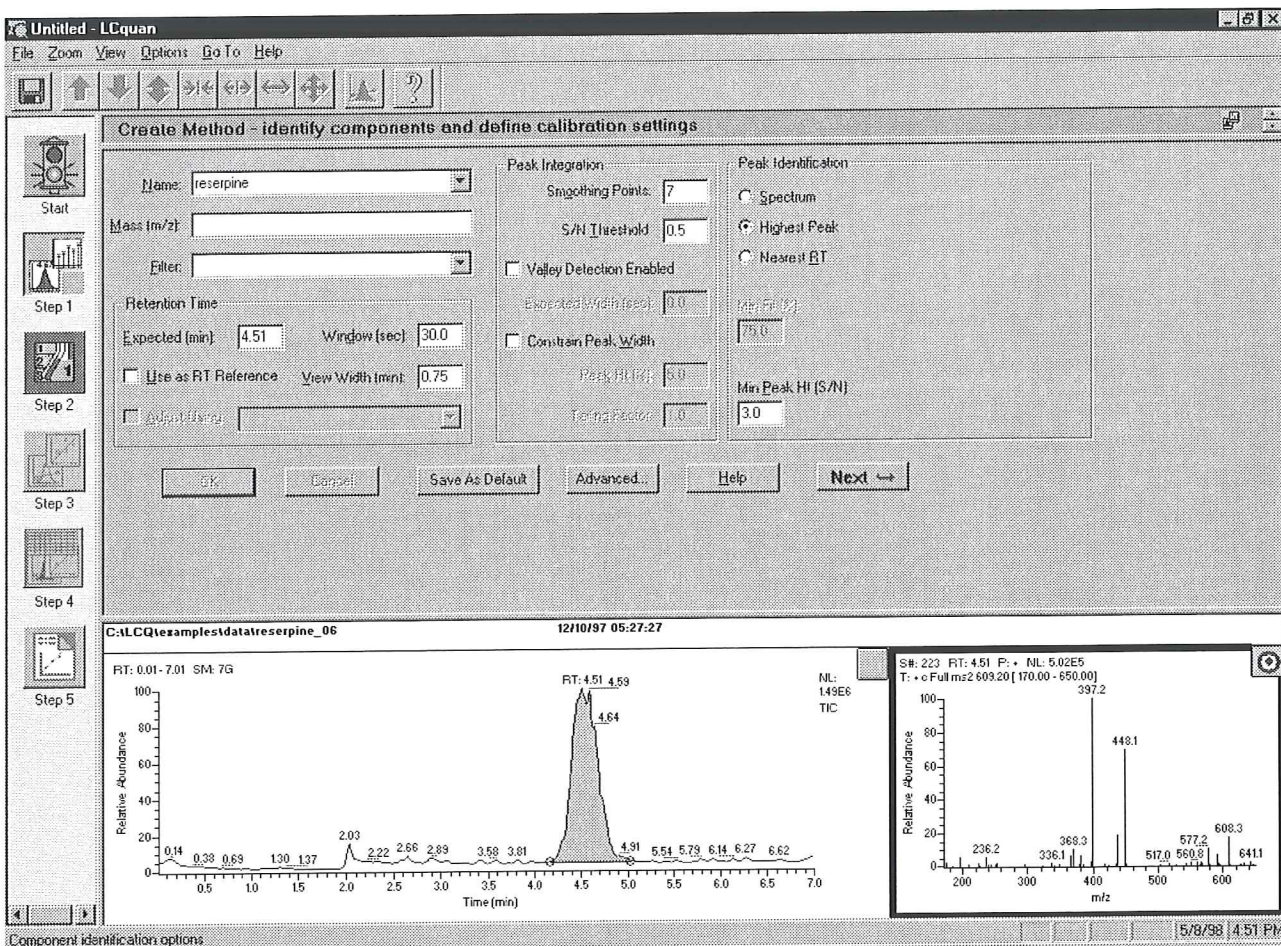

Figure 8-6. Create Method - Identify Components view, showing the total ion current (TIC) chromatogram of *reserpine\_06.raw*
3. Click on **OK**. LCQUAN changes the chromatogram and spectrum views based on naming the component. See Figure 8-6.